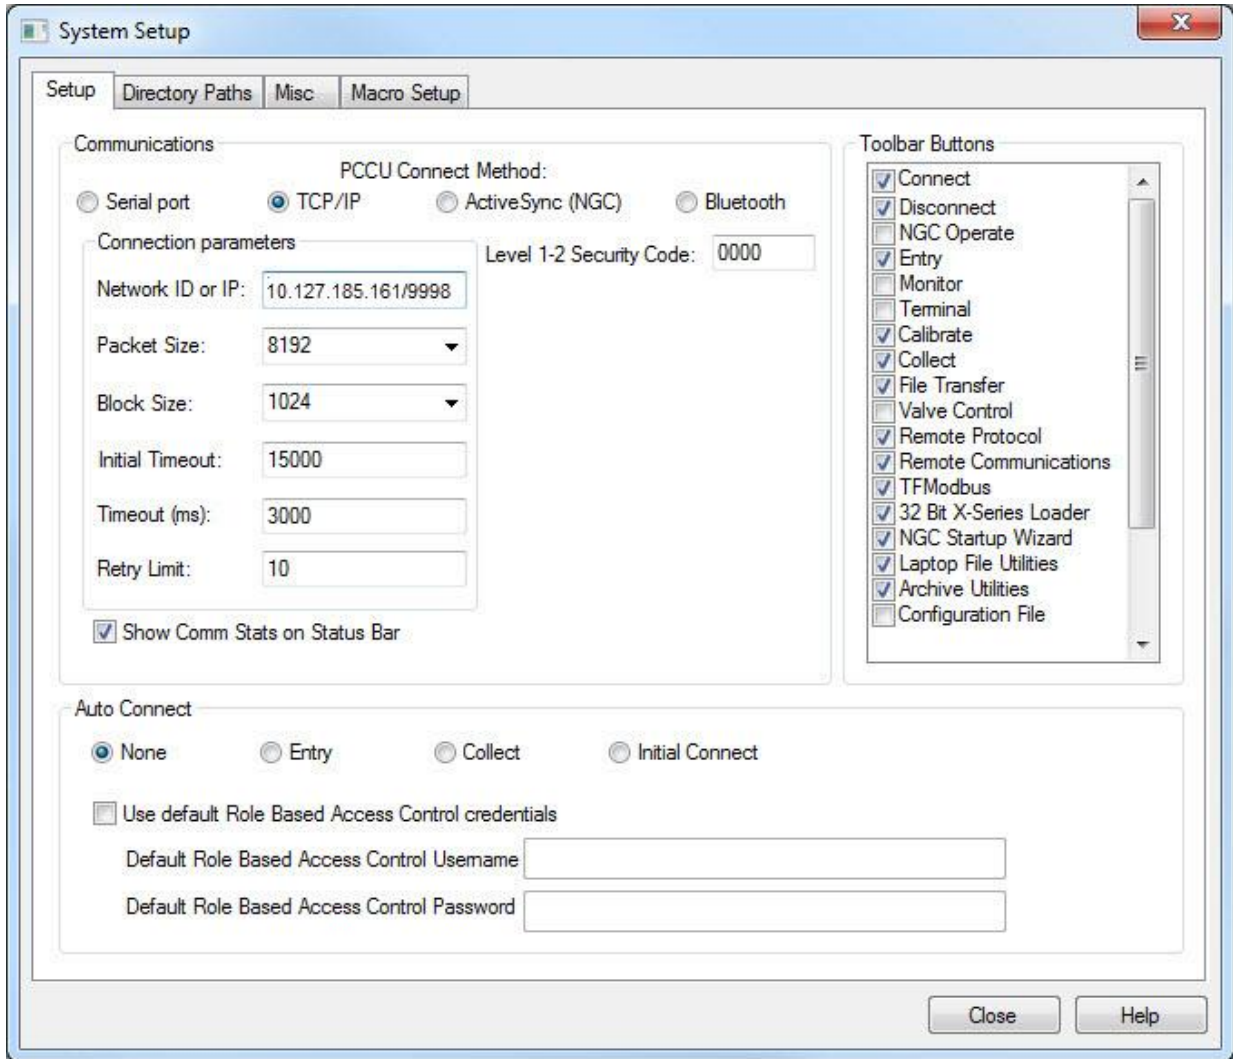

Figure 70: Connection setup over Ethernet using non-default TCP port
- a. The IP address of the XFC and the TCP port for the connection (in the following format: xxx.xxx.xxx.xxx/TCP port number). See Figure 70.